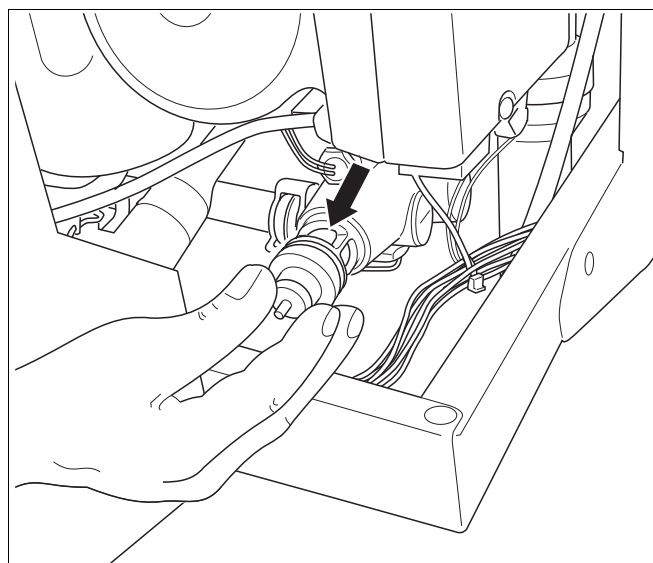

fig. 97 Remove the internal mechanism of three-way valve
- Remove the internal mechanism of the three-way valve (fig. 97).